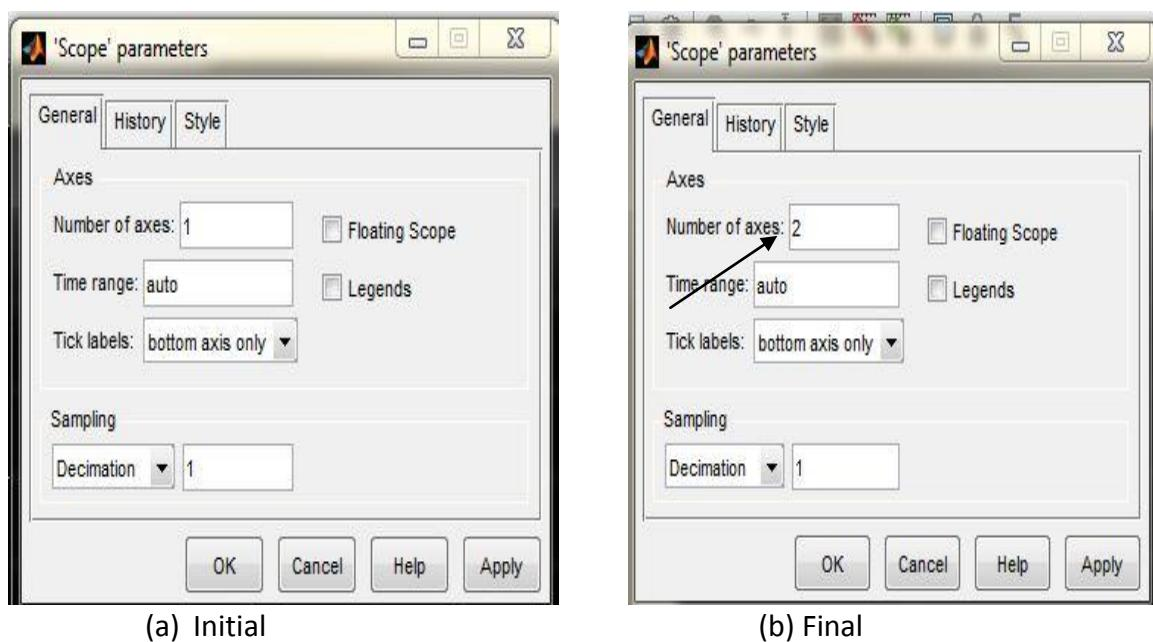

Figure 16: Scope block Properties.
8. For **Time Scope**: In Time Scope, we have to change *Number of Axes* = 2 as shown in the figure 16.